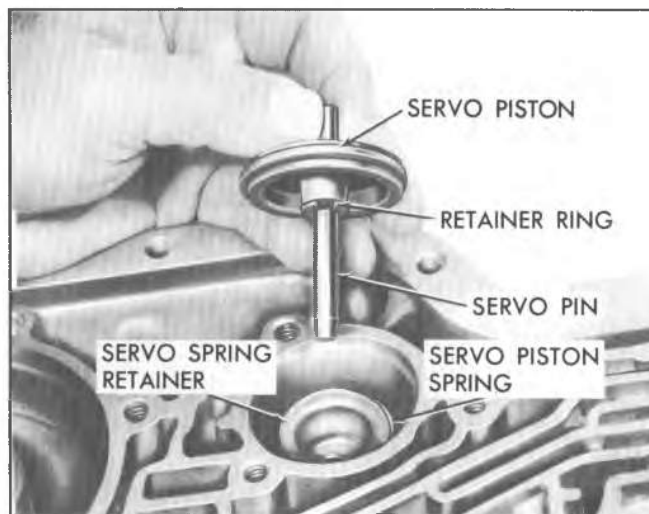

Fig. 7A-20C--Removing Front Servo Piston, Retainer Ring, and Pin
9. Remove front servo piston, retainer ring, washer, pin, spring retainer and spring from transmission case (Fig. 7A-20C).